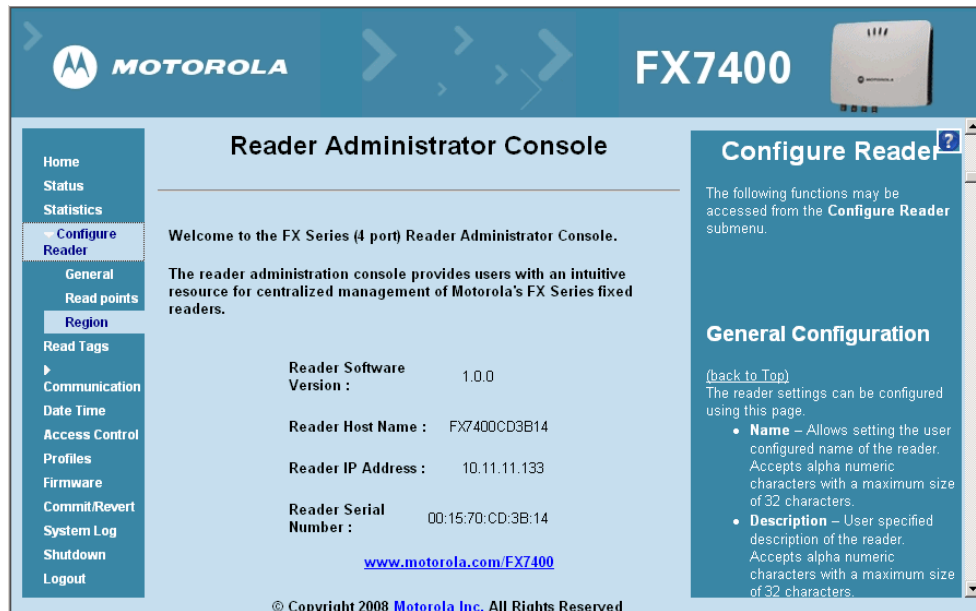

Figure 4-14 Reader Administrator Console Main Menu
2. Enter the **User Name:** and **Password:** in the appropriate fields and click **Login**. The reader **Administrator Console Main Menu** window appears (Figure 4-14).